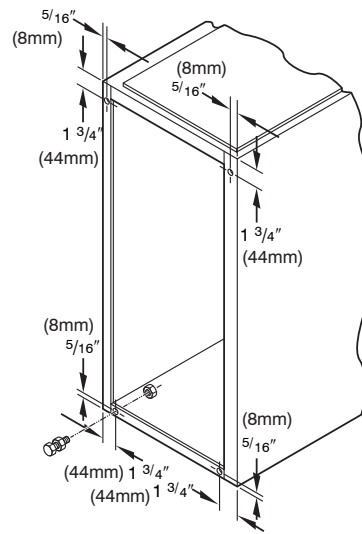

Fig. 20 - Leveling Legs
When furnace is used in upflow position with side inlet(s), leveling legs may be desired. (See Fig. 20.) Install field-supplied, corrosion-resistant 5/16-in. (8 mm) machine bolts and nuts.
1. Position furnace on its back. Locate and drill a 5/16-in. (8 mm) diameter hole in each bottom corner of furnace. (See Fig. 20.) Holes in bottom closure panel may be used as guide locations.